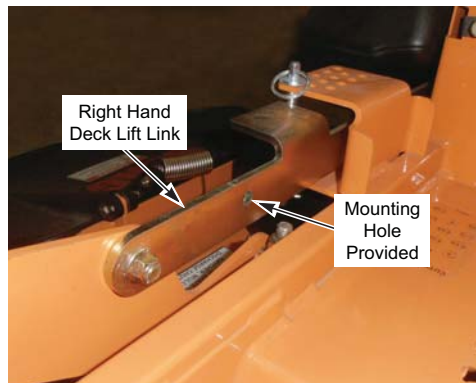

Figure 1. Locate Mounting Hole
3. Identify the Right Hand Deck Lift Link and locate the mounting hole provided. See Figure 1.